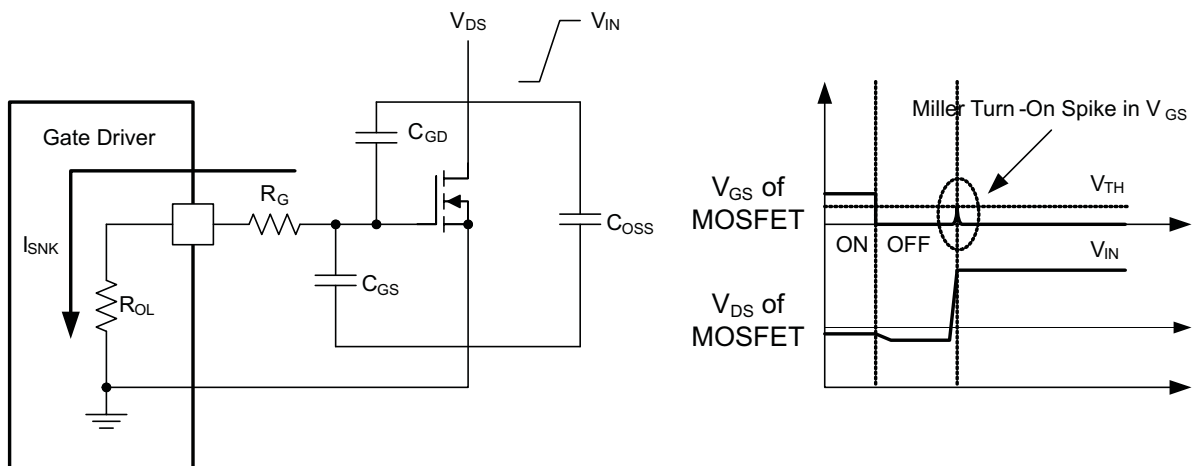

图 40. Low Pull-Down Impedance in UCC2753x (Output Stage Mitigates Miller Turn-On Effect)
An example of a situation where Miller turnon is a concern is synchronous rectification (SR). In SR application, the  $dV/dt$  occurs on MOSFET drain when the MOSFET is already held in OFF state by the gate driver. The current charging the  $C_{GD}$  Miller capacitance during this high  $dV/dt$  is shunted by the pull-down stage of the driver. If the pull-down impedance is not low enough then a voltage spike can result in the  $V_{GS}$  of the MOSFET, which can result in spurious turnon. This phenomenon is illustrated in 图 40.